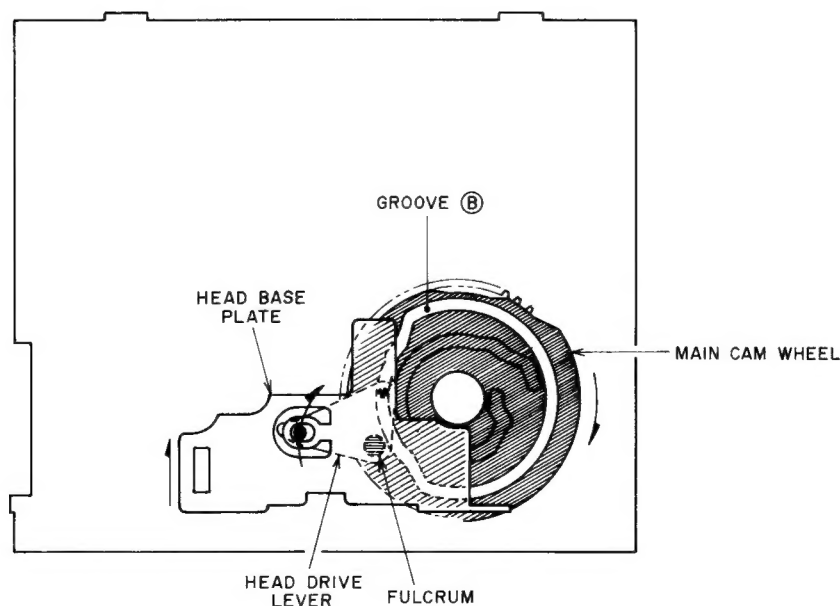

Fig. 5-2
2) Head base plate (Refer to Fig. 5-2)